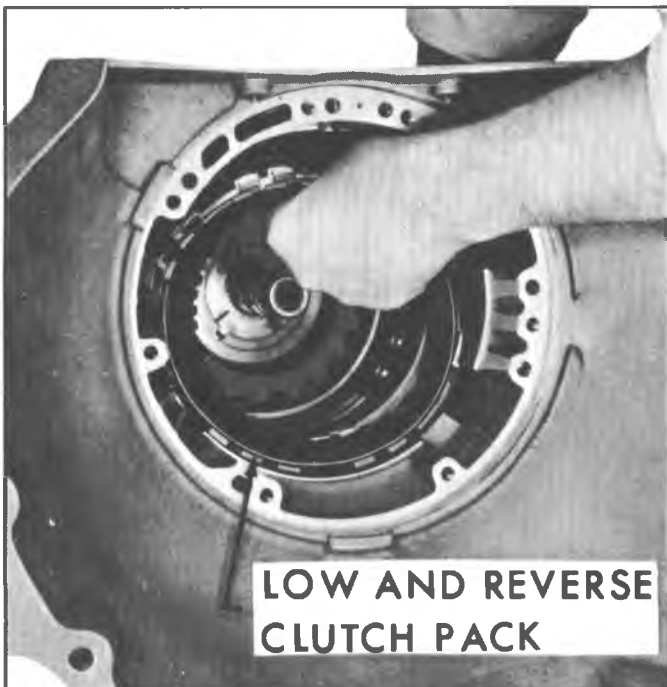

Fig. 39N--Removing Low and Reverse Clutch Pack
- 15. Remove low and reverse clutch faced plates and steel reaction plates (fig. 39N).